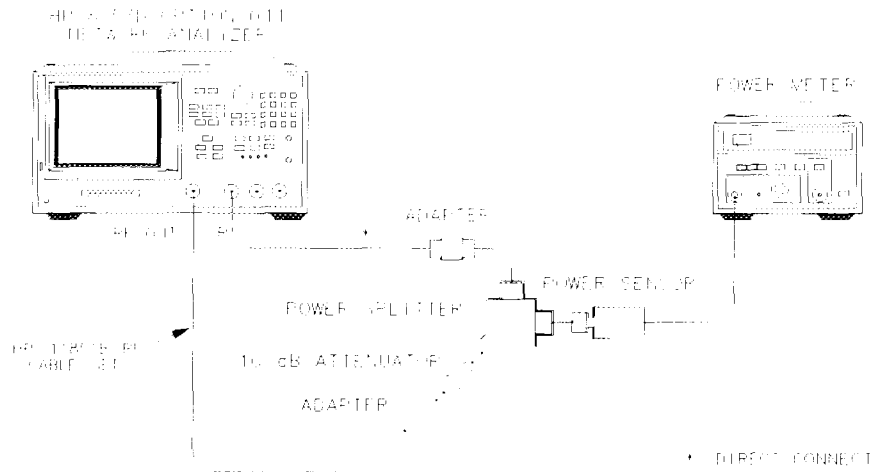

Figure 6-9. Magnitude Frequency Response Test Setup (Receiver Input R)
- 1 Connect the equipment as shown in Figure 6-9.